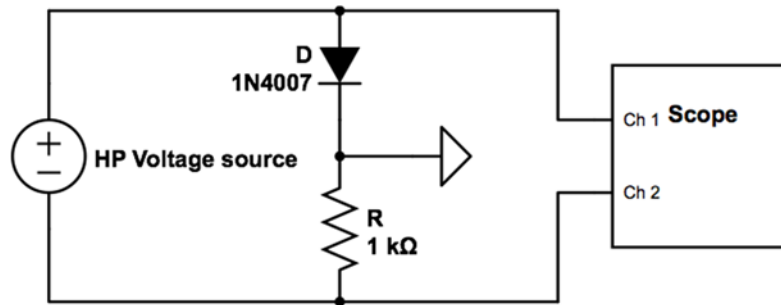
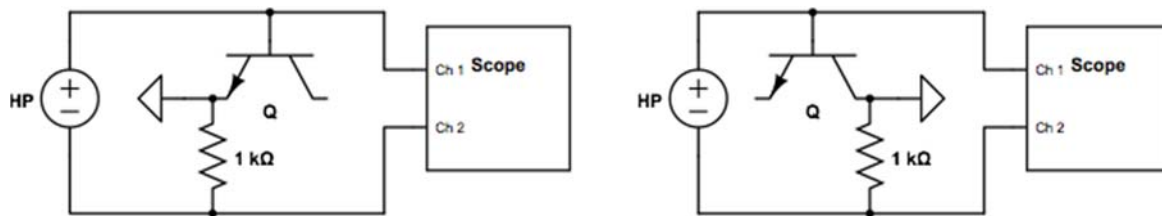

Figure 16: This circuit can be used to measure the I-V curve of the diode
Figure 21: I-V Curve measurements of the pn-junctions in a npn 2N3904 transistor.
The I-V curve of a diode can be measured with the setup shown in Figure 16:
**Important: In the circuit of Figure 16 the HP voltage source should not be grounded on either side (neither the red nor the black output should be connected to the green output at the HP. Check that!)**
Replace the HP in Figure 16 by the output terminals of the transformer. Set the scope to X-Y mode where the position of the signal on the horizontal axis is proportional to the diode voltage (Ch1) and the vertical position to the current (Ch2). Try it out and show it to the instructor.
Set up the left circuit in Figure 21 and measure the I-V curve of the base-emitter pn-junction inside the transistor (see instructions around Figure 16 in Lab 3). Then measure the I-V curve of the base-collector pn-junction (right circuit in Figure 21). Compare the two results with each
other and with the simple diode measurement (Fig. 16).